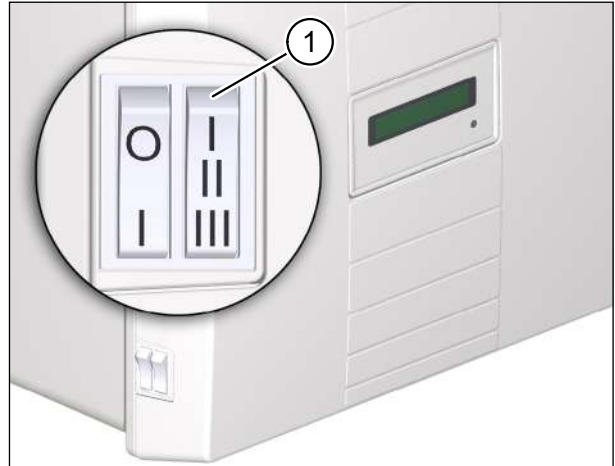

Fig. 17: Reset filter change indicator
- ▶ Within three seconds, select the ventilation levels **I-II-III-II-I** one after the other on the step switch (item 1 in Fig. 17).
- ▶ Within three seconds, while the ventilation unit is beeping, again select the ventilation levels **I-II-III-II-I** one after the other on the step switch (item 1 in Fig. 17).